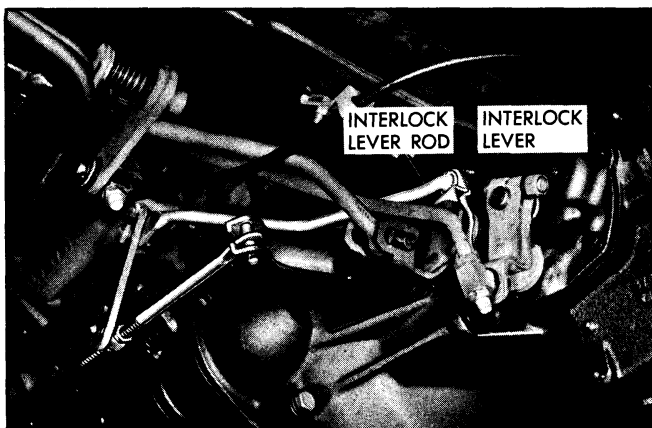

Fig. 7-14 Shift Levers and Interlock Pawl
10. Install interlock pawl and first and reverse shift lever (Fig. 7-14).